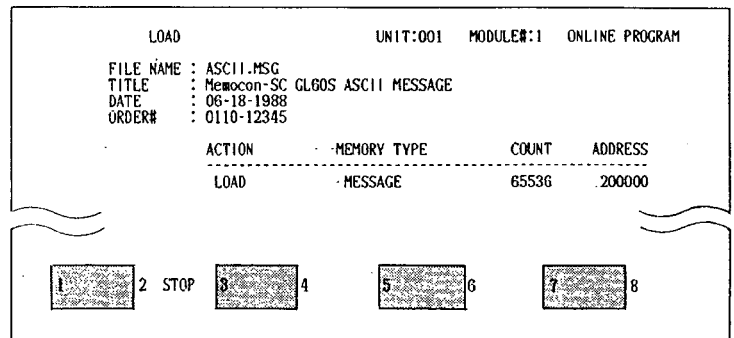
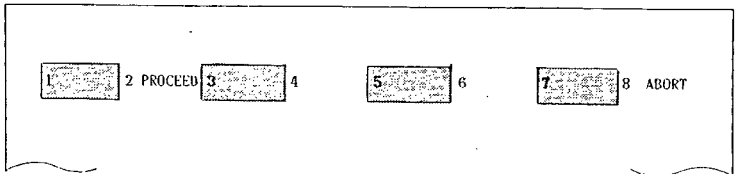

Fig. 7.40
Fig. 7.44
4. To stop the saving process under execution, depress **STOP** shown in Fig. 7.40. Then, the label display as shown in Fig. 7.44 is called up. Depress **PROCEED** to continue saving, and depress **ABORT** to call up the display as shown in Fig. 7.30 again.